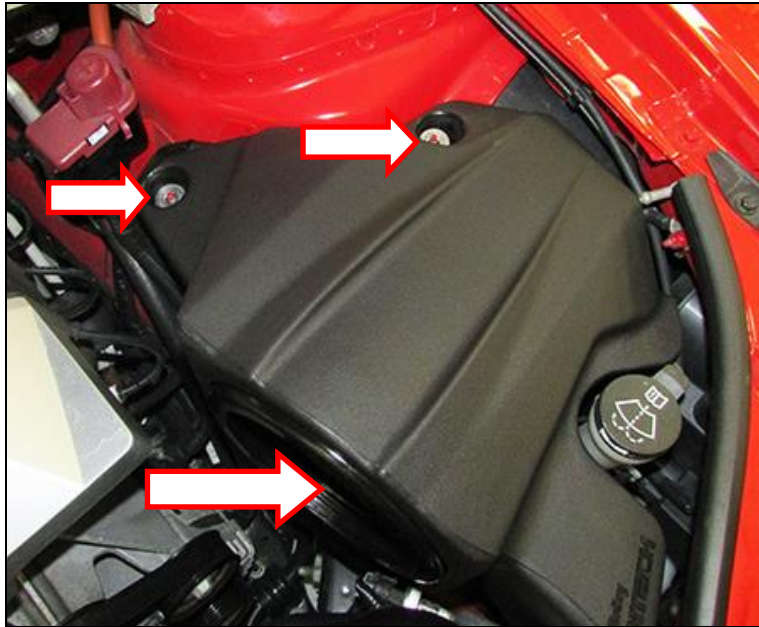

Figure 3
9. Reinstall the previously removed nuts on the two studs and tighten (**Figure 3**).